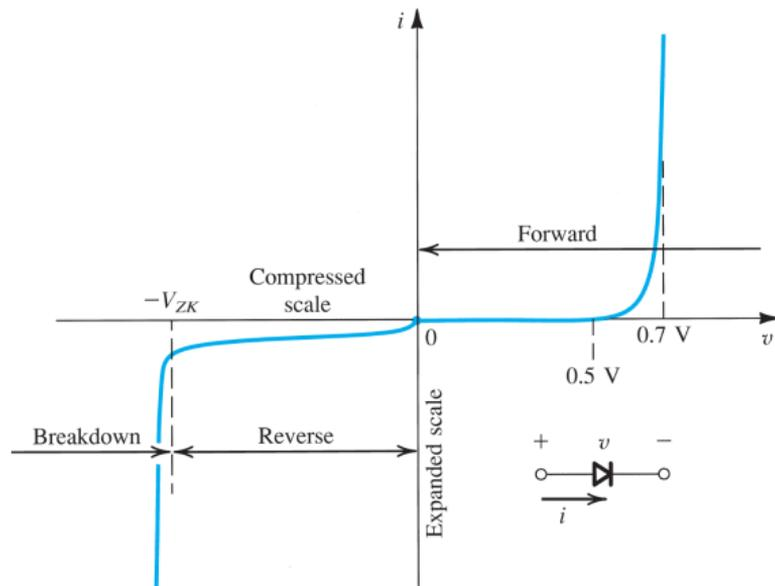

FIG 1. The diode  $i$ - $v$  relationship
- In the breakdown region, the  $i$ - $v$  curve has a step curve and a near constant voltage drop (Fig. 1)